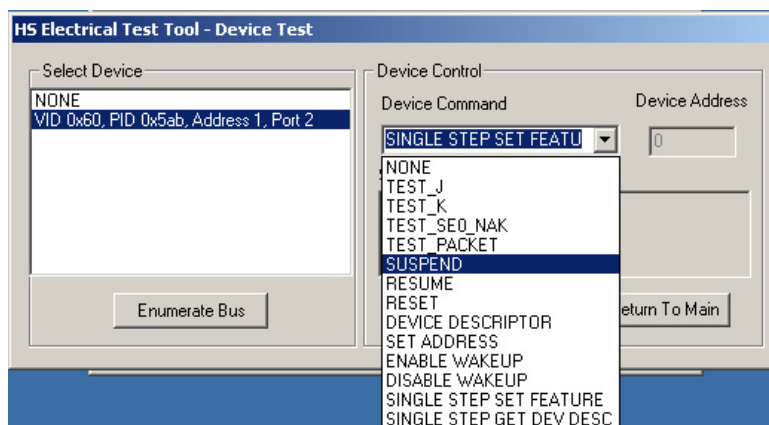

Figure 26. Device Suspend
16. On the HS Electrical Test Tool - Device Test menu, select SUSPEND from the Device Command drop down menu (Figure 26).